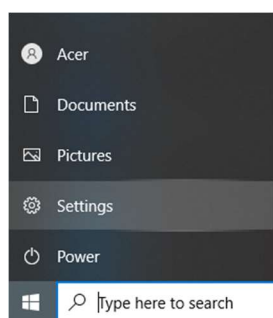

Fig. 1
2. From the Windows menu select Settings (Fig.1).